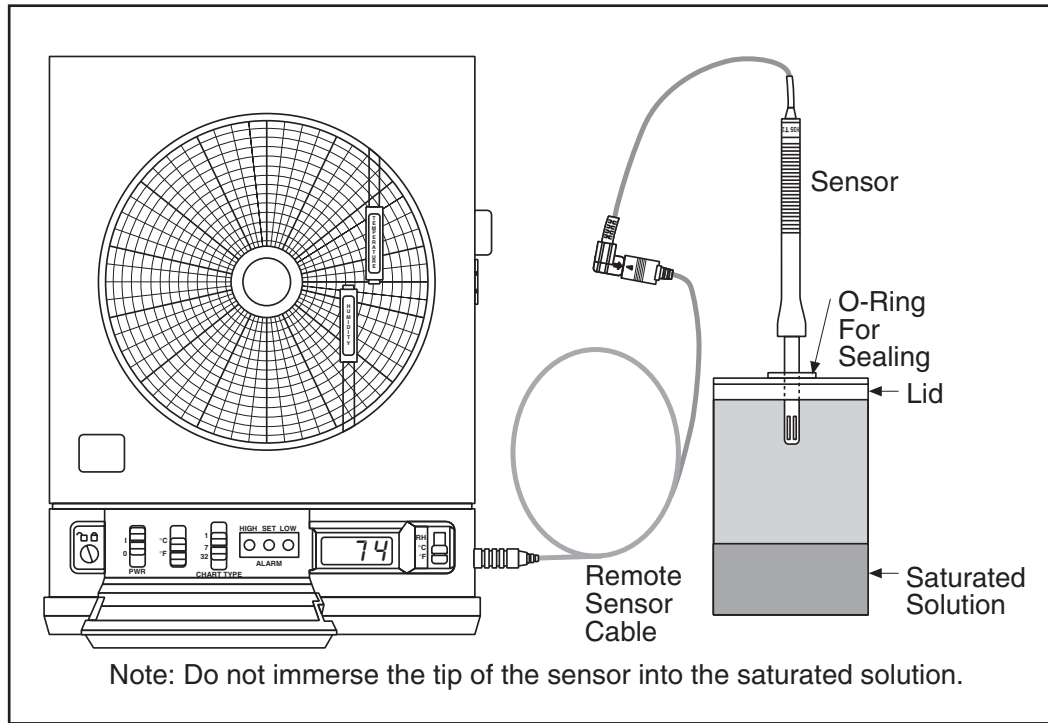

Figure 5-5. Calibration Setup
If you have access to accurate temperature and humidity calibration equipment, you may want to calibrate the instrument on your own as described in this section. Figure 5-5 shows how to set up the calibration equipment. The following flowchart shows the basic path that you should take to calibrate the sensor.
1. Set up the recorder with the temperature/humidity sensor in a sealed jar (33% RH) using saturated magnesium chloride as shown in Figure 5-5. If you are not experienced with saturated salt solutions, you may not obtain good results. If you are experiencing difficulty, contact our Engineering Department.